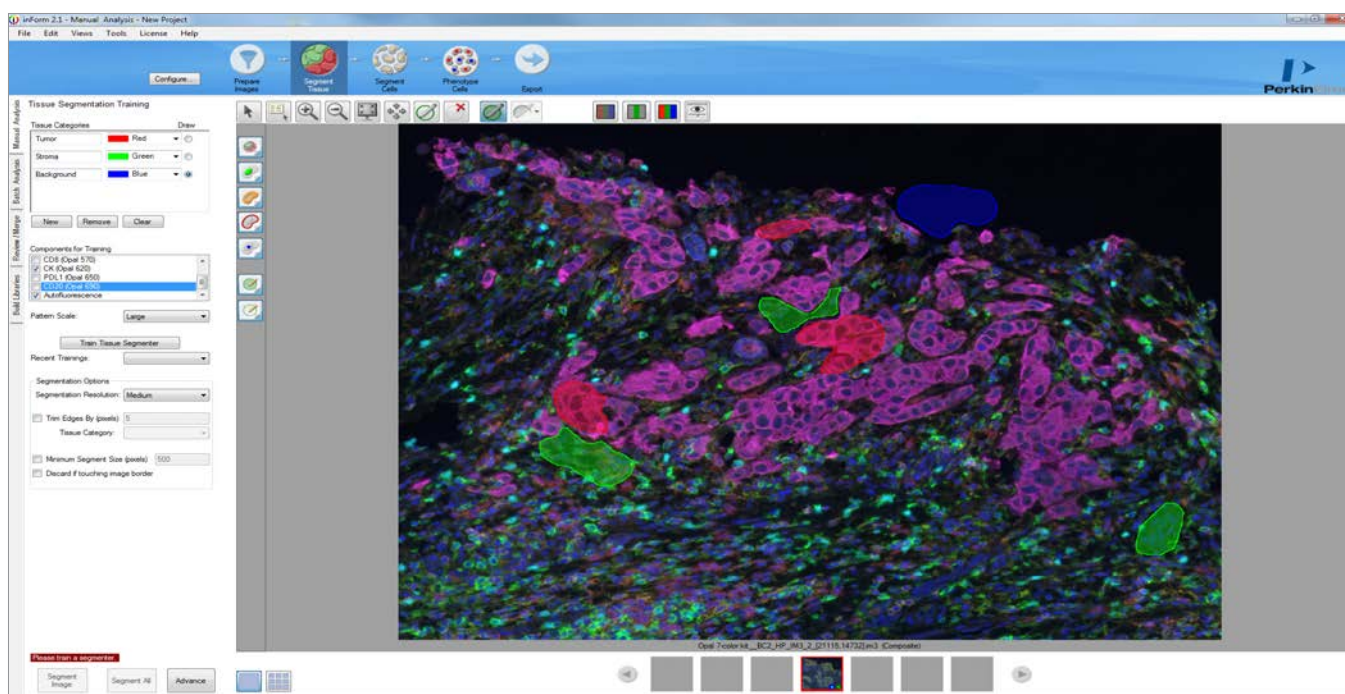

Figure 17. Tissue segmentation training example. Tumor training regions are shown in red, stroma in green, and background in blue.
- It is often helpful to have a few training regions that go right up to and follow the edge of tissue categories. Training regions do not need to be in contact with one another (Figure 17).